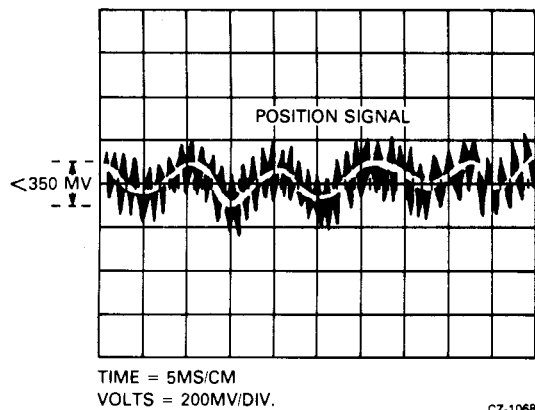

Figure 9-7 Position Signal
9. Set the oscilloscope to sync internal, negative-going, and observe the waveform in Figure 9-7.